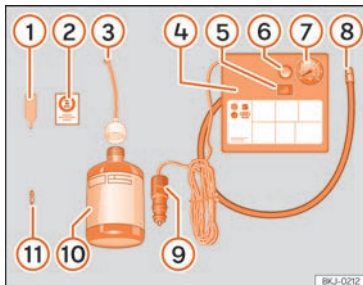

Fig. 39 Standard representation: anti-puncture kit contents.
The anti-puncture kit is located underneath the floor covering in the luggage compartment. It includes the following components » **Fig. 39:**
- Unscrew the tyre valve cap and insert. Use the » **Fig. 39** ① tool to remove the insert. Place it on a clean surface.
- Shake the tyre sealant bottle vigorously » **Fig. 39** ⑩.
- Screw the inflator tube » **Fig. 39** ③ into the sealant bottle. The bottle's seal will break automatically.
- Remove the lid from the filling tube » **Fig. 39** ③ and screw the open end of the tube into the tyre valve.
- Place the insert back into the tyre valve using the tool » **Fig. 39** ①.
- Screw the compressor tyre inflator tube » **Fig. 39** ⑧ into the tyre valve.
- Check that the air bleed screw is closed » **Fig. 39** ⑥.
- Insert the connector » **Fig. 39** ⑨ into the vehicle's 12-volt socket » **page 155**.
- Turn the air compressor on with the ON/OFF switch » **Fig. 39** ⑤.
- Attach the sticker »» Fig. 39 ② to the instrument cluster, within the driver's visual field.
Screw the inflator tube »» Fig. 39 ⑤ again and check the pressure on the gauge ⑥.